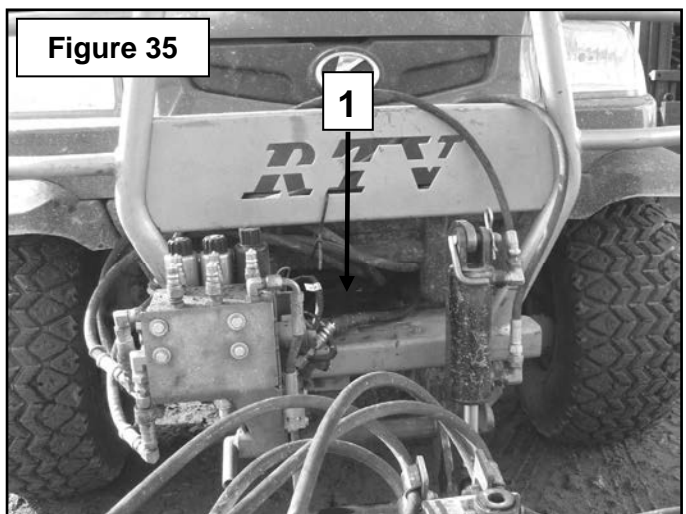

Figure 35
12. **Figure 35:** Bring the hoses (item 1) to the front to make them exit in the center of the front guard.
16. **Figure 35:** Connect the hoses to the hydraulic block making sure to match the identification rings. The hose fittings must point towards the rear of the vehicle as illustrated.